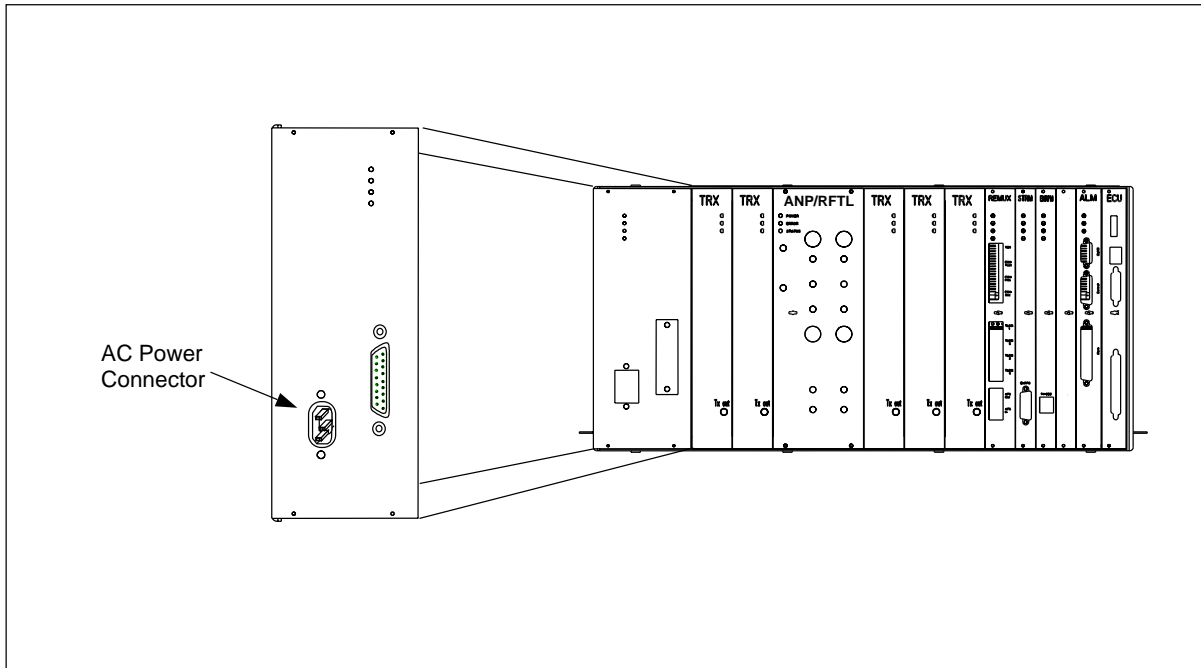

Figure 5-9. The Power Unit
6. Locate the power unit shown in Figure 5-9 on page 5-19.